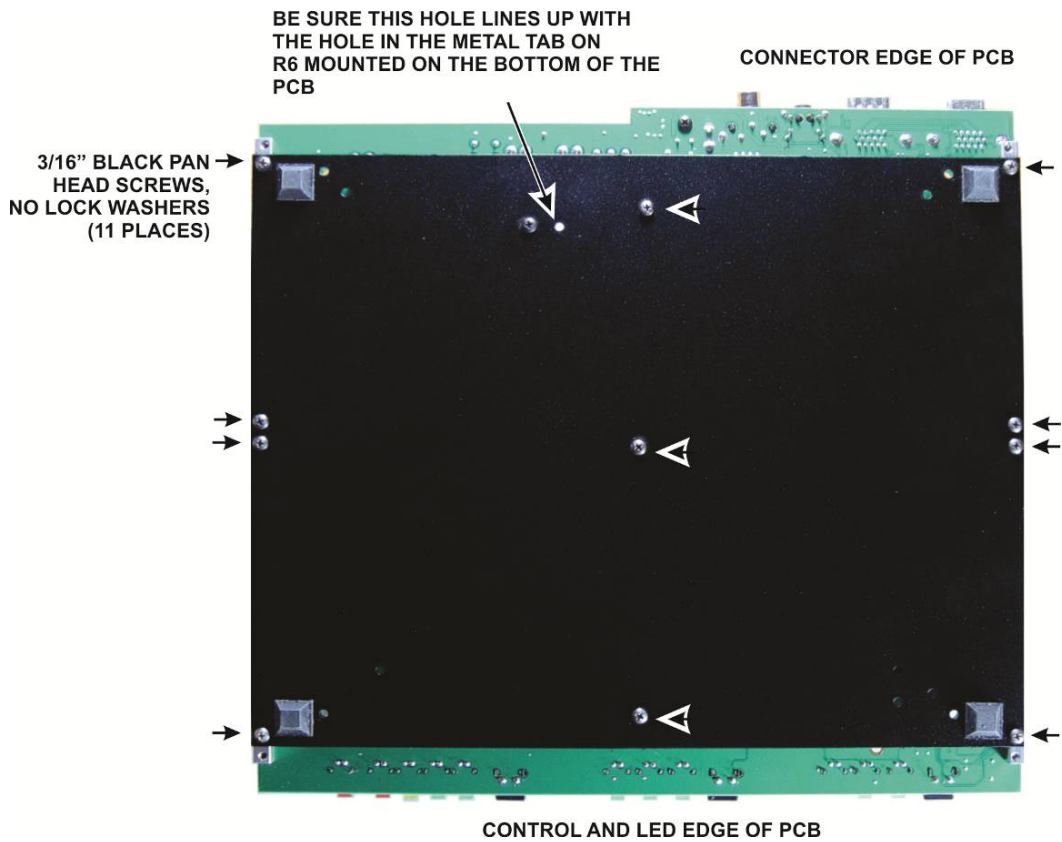

Figure 19. Installing the Bottom Cover.
- Attach the bottom cover as shown in Figure 19. Note that the bottom cover only fastens to one of the two screw holes in each of the 2D fasteners mounted at the corners of the circuit board. The remaining screw holes in those 2D fasteners will be used to secure the front and rear panels. When positioning the bottom cover, be sure the open hole shown in Figure 19 lines up with the hole in the tab for R6 mounted on the circuit board.